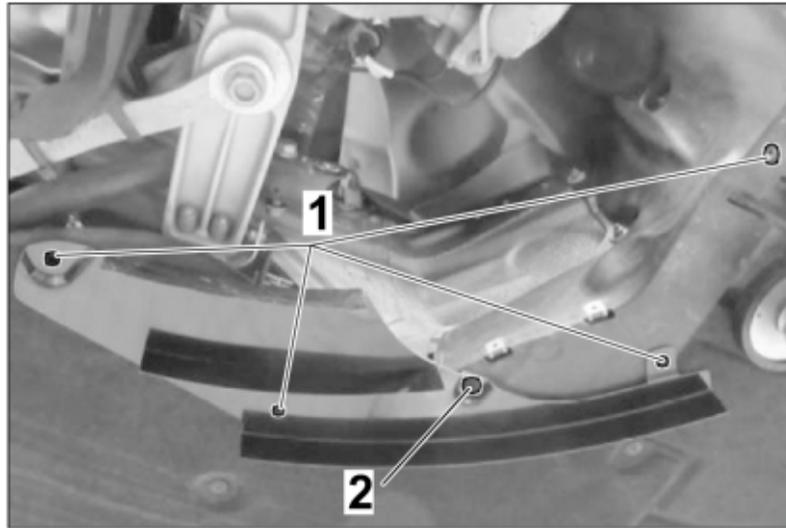

Figure 35
6.3.1 Removing tapping screws (⇒ Figure 35 -1-)
6.3.2 Pre-assemble the air control element (front) with a new ST4.8 x 19 tapping screw with collar (fastening kit included) on the underbody on the left-hand side (⇒ Figure 35).